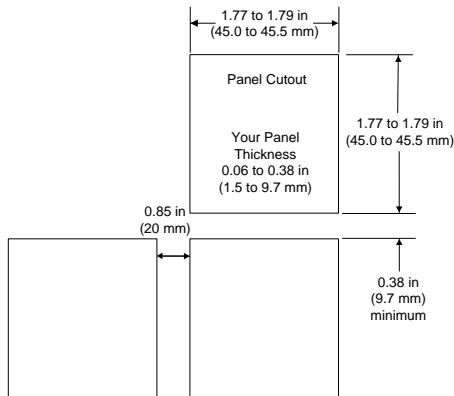

Figure 2b — Panel cutout and spacing.
1. Make a panel cutout, using the dimensions in Figure 2b.